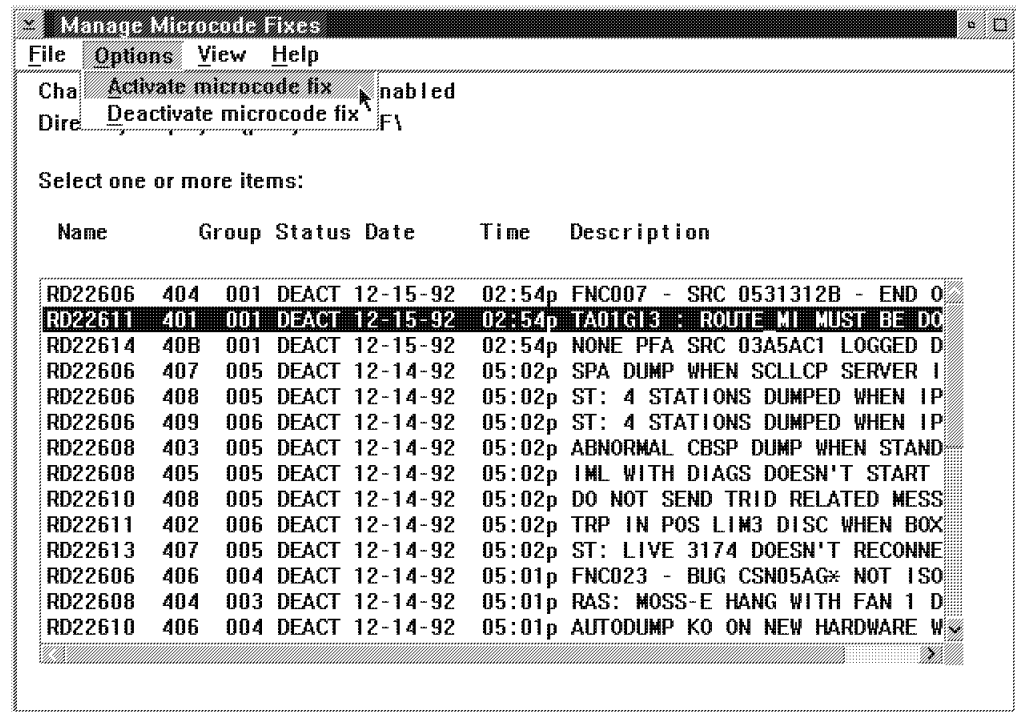

Figure 2-15. Manage Microcode Fixes
14. \_\_\_\_ Click on the lines of the MCFs to be applied (see example in the Figure 2-15 on page 2-24).
7. \_\_\_\_ Click on the lines of the MCFs to be removed (see Figure 2-15 on page 2-24).